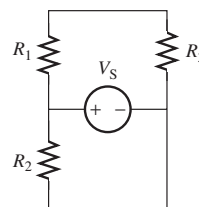

FIGURE P3.23 Circuit for Problem 3.23.
- 3.23** (A) Find the voltage drop across all resistors in Figure P3.23.